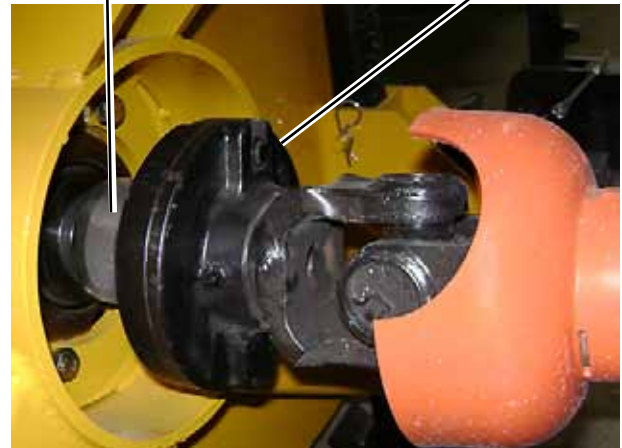

Figure 6
3. Place the end of the driveshaft on the snowblower input shaft. Pull back on the collar and push the shaft on completely. Release the collar and pull back on the shaft to ensure it is properly secured on shaft (Figure 6).